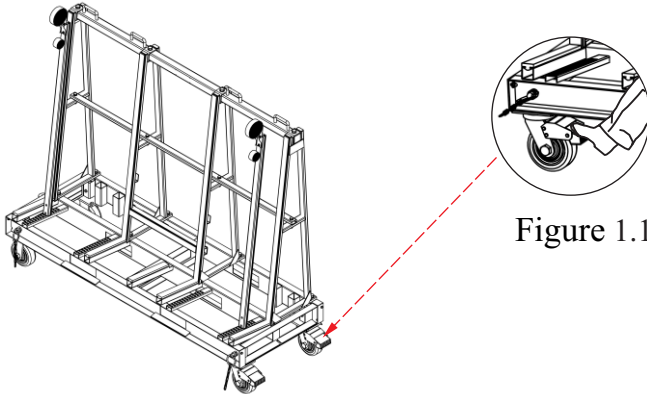

Figure 1.1
Step 1: Lock two swivel casters (Figure 1.1).